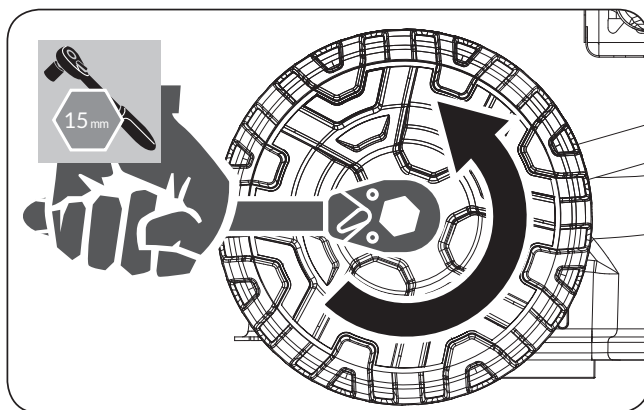

Figure 36
2. Remove the wheel nut and wheel from the wheel axle, using a 15 mm socket wrench. (See **Figure 36**)